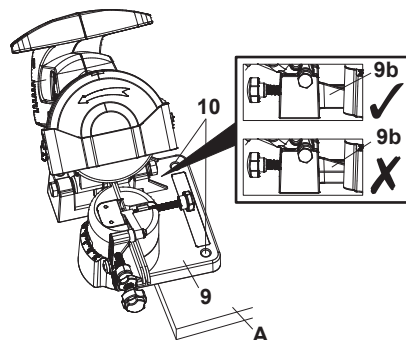

Fig. 3
1. Align the base plate (9) to the edge of the workbench (A) (or a similar firm and level surface) (Fig. 3). Pay attention that the middle rim (9) underneath the base plate (9) is aligned to the edge of workbench (A).
2. Transfer the hole pattern of the two mounting holes (10) to the surface with a pencil.
4. Mount the base plate (9) with suitable hardware (M8 bolts and nuts, not supplied) to the surface of workbench (A).